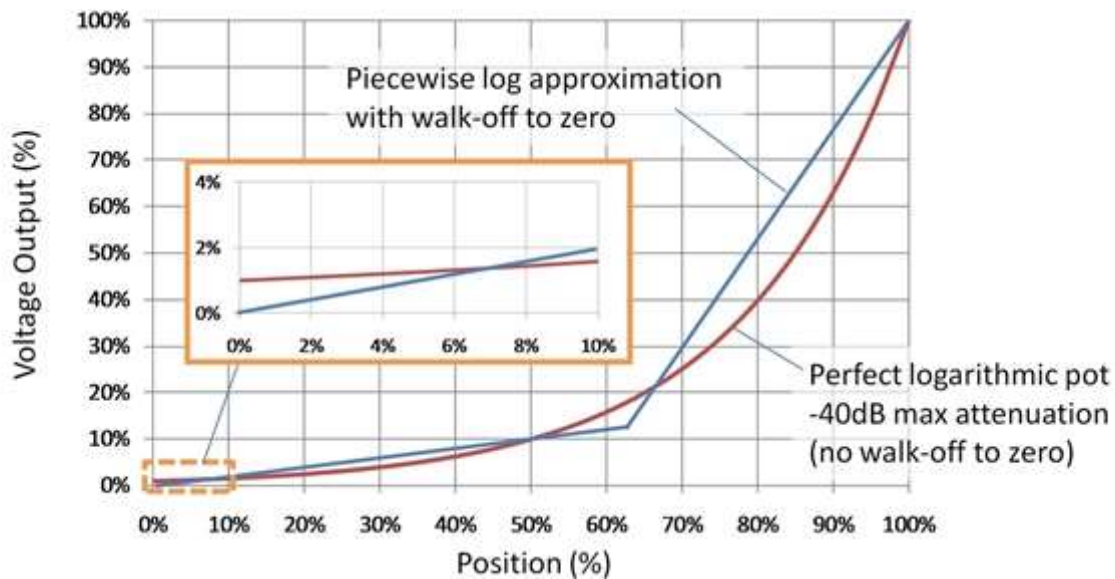

Figure 2.
- Log pots are generally fabricated by making two (maybe more?) piecewise approximations to a desired taper (figure2). Two different resistivity “inks” are printed to form the resistive element. A critical factor for stereo volume controls is the tracking accuracy of the two ganged pots. Note that the output goes to zero at the zero position.